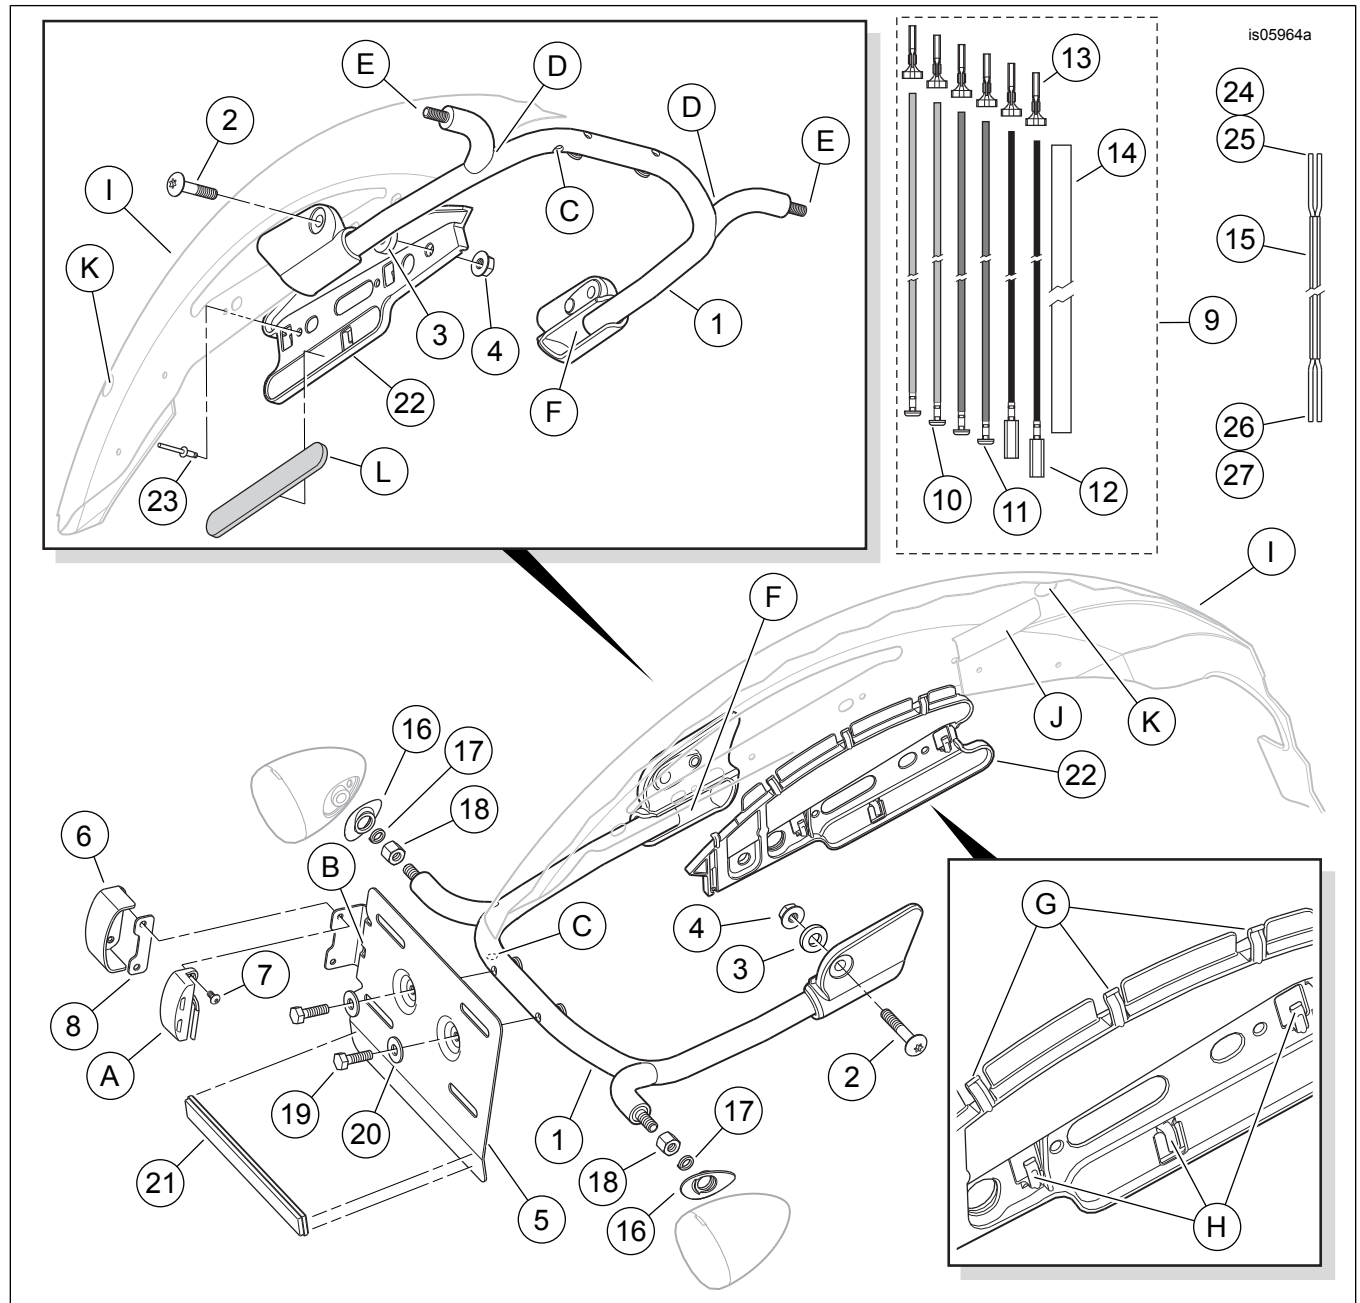

Figure 5. Service Parts, XL Rear Stop/Tail/Turn Signal and License Plate Relocation Kit
3. See Figure 5. Guide the wire and conduit into the hole (C) in the STT relocation weldment (1) tube, and push the wires past the Y-joint (D) on the left side of the tube.
4. Get three **new** terminated wires, one black (12), one violet (11) and one blue (10) from the kit.
5. Feed the **unterminated end** of **one** wire into the left-side threaded stud (E) on the STT relocation weldment. Guide the wire into the tube, and push the wires past the Y-joint.
7. Feed the **unterminated end** of the third wire into the threaded stud, favoring the inside of the curve. Guide all the wires and conduit into the tube until the first wire end comes out through the left forward opening (F) of the tube. Continue pulling and pushing the wires until all the wire ends are exposed.
8. Pull the license plate illuminator wire conduit through the tube until the slack is taken up at the license plate bracket. Pull a small amount of slack back as wire relief. Use a cable strap (not provided) to bind the license plate illuminator wire conduit to the STT relocation weldment near hole (C).
14. Insert the wires from the left-side threaded stud on the STT relocation weldment through the **threaded** hole (9) in the lamp housing (1) and the center of the rubber gasket (4).
16. Insert the terminal of the **new** black wire (10) into the cavity in the rear of the reflector (5) until it clicks into place. Thread the blue wire (12) and violet wire (11) through the center of the reflector (5), and the spring (7), and insert the button terminals into the correct slots and cavities in the reflector bulb socket (6).
18. See Figure 5. Get the protective tubing (14) from the kit, and cut into two equal-length pieces.
1. See the Figure 5 top inset. Get the left-side reflector mounting bracket (22) and pop rivets (23) from the kit. Position the bracket to the inside left of the fender, aligning the mounting holes with the holes in the fender from the drilled-out rivets. Refer to the similar bracket on the right side.
- a. Get the rear reflector (L), purchased separately.
2. See Figure 5. Get the license plate illuminator harness extension (15), pin housings (24) and (25), socket housing (26) and (27) from the kit. On 2013 and earlier models, connect items (24) and (26) to the ends of the wire harness (15). On 2014 and later models, connect items (25) and (27) to the ends of the wire harness (15). Connect the pin housing to the license plate illuminator socket housing.
3. On the left side, route the license plate illuminator wiring and protective tubing through the three **upper** clips (G) on the reflector bracket (22), behind the wide plastic clip (J) on the plastic rear fender extension (mud flap) toward the front of the fender and out through the wire pass-through hole (K) in the fender.